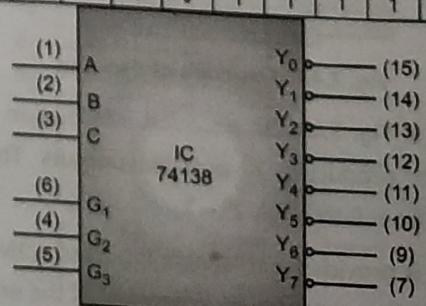

Fig. 2.49 : Logic symbol
- Fig. 2.49 shows logic symbol of 74138 and function table also shown in table below.